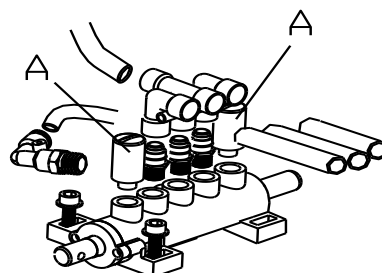

Fig 31
2. Loosen the valve mufflers (A) which belong to Jaws open and close Pedal and Bead Breaker Pedal;
3. Clean the mufflers with compressed air; please replace it referring to the spare parts list if it is damaged. (Fig 31)